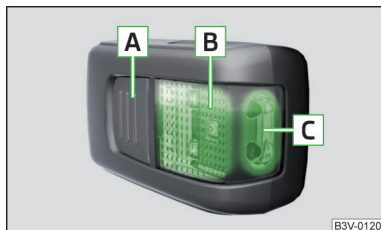

Fig. 133
Description of the light » Fig. 133
- **To switch on** the removed light, press button **A** » Fig. 133. Pressing the light again will **switched it off**.
If the light is not switched off and is correctly inserted in the mount, the LED diodes in the front part of the light **C** » Fig. 133 are automatically switched off.